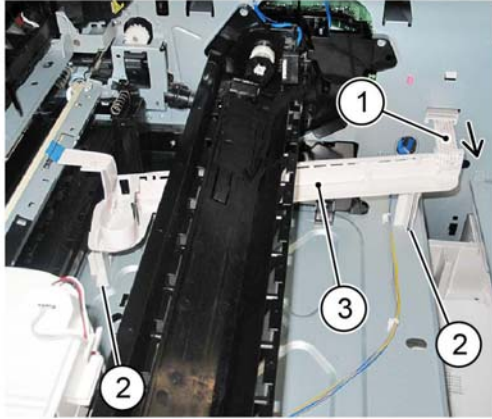

Figure 9 Assembly removal
11. Remove the harness assembly, **Figure 9**:
- a. Pull the FFC cable (1) toward the inside of the machine.
- b. Disengage the hooks (2) on the foot, then remove the harness assembly (3).